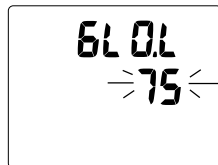

Fig. 18 - SET BACKLIGHT
**Set Backlight Level**, information includes (Fig. 18):